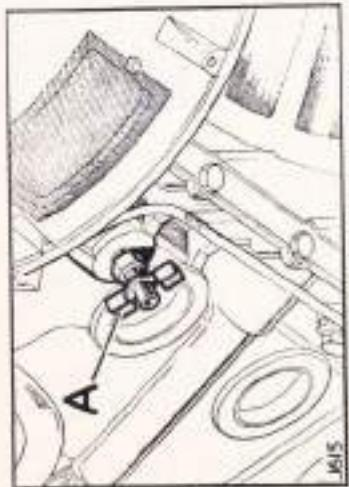

Fig. 16 Cylinder block drain tap
2. Drain and flush the system. Draining points are situated at the bottom of the radiator and two on the cylinder block—one each side of the engine. (Fig. 16)